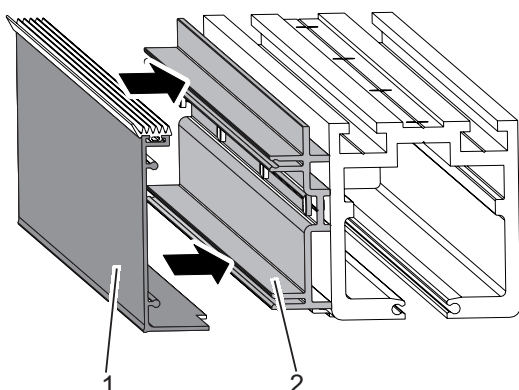

Fig. 40: Attaching the cover
1. Turn the adjusting screws (Fig. 40/1) using a hexagon wrench.
- The inner insert (Fig. 40/2) will be slightly moved into the desired direction.
5. Attach the cover (Fig. 40/1) to the plastic element (Fig. 40/2).